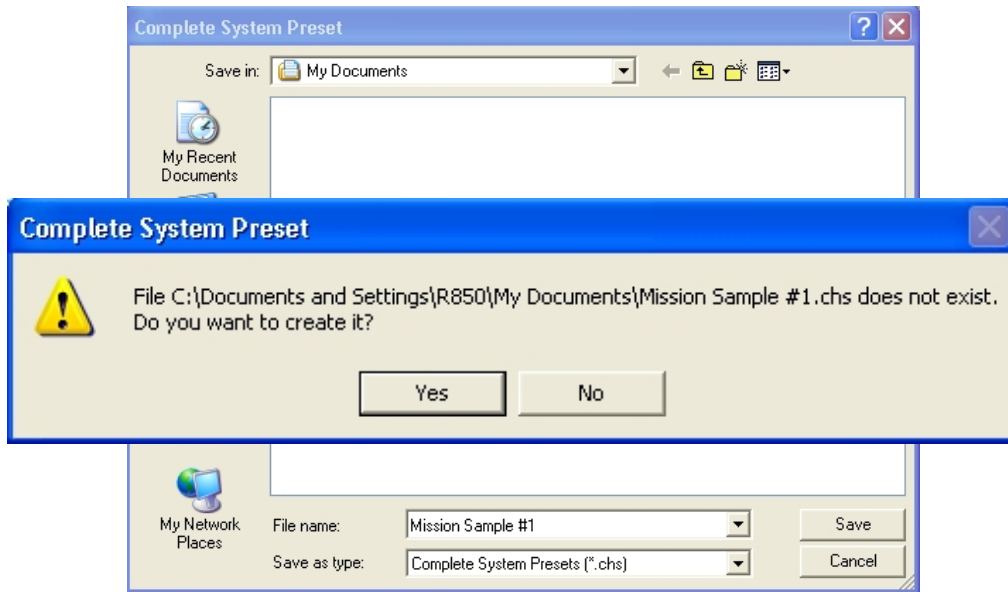

Figure 6-42
Clicking on the above selections takes the user to “Desktop” in the system hard drive. Figure 6-42 depicts the display that appears. The user then:
Step 1 - “Names” the preset desired (Figure 6-42 example is “Mission Sample #1”). and the user is asked if he/she wants to “create this file”.